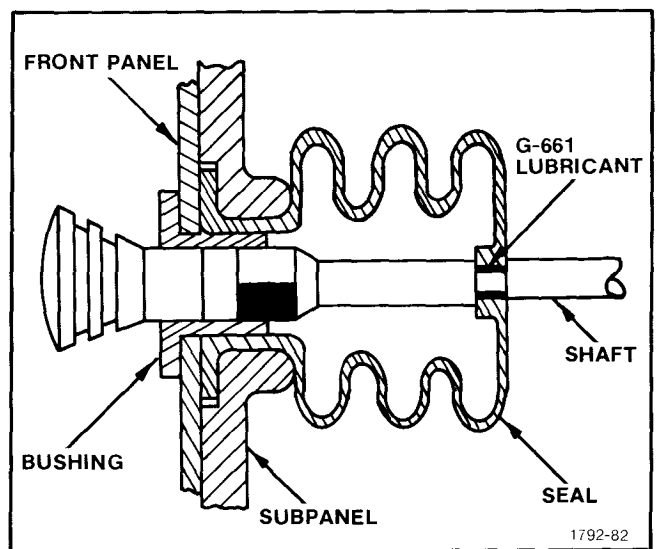

Fig. 5-29. Installation of the POWER SWITCH.
26. Install Power Switch Shaft into Front Panel (see Fig. 5-29)
- 3. Install as shown in Fig. 5-29.